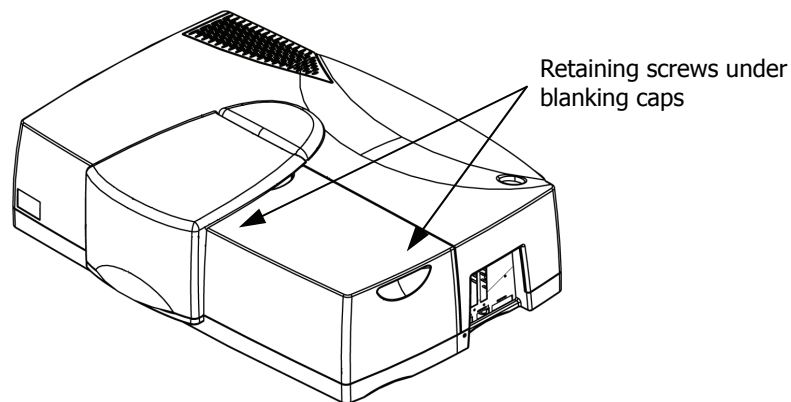

Figure 18 Undoing the retaining screws
3. Undo the two retaining screws located under the blanking caps on the top of the detector (Figure 18), which are accessible using the long, posidrive screwdriver supplied with the instrument.